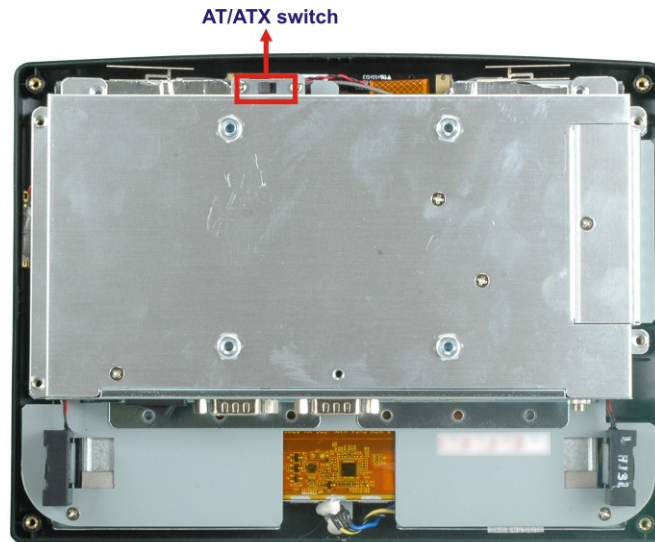

Figure 2-4: AT/ATX Switch Location
AT and ATX power modes can both be used on the AFL-08B-N270. The selection is made through an AT/ATX switch on the top edge of the inner aluminum cover (**Figure 2-4**). To select AT mode or ATX mode, follow the steps below.
Step 1: Locate the AT/ATX switch on the top edge of the aluminum cover (**Figure 2-4**).